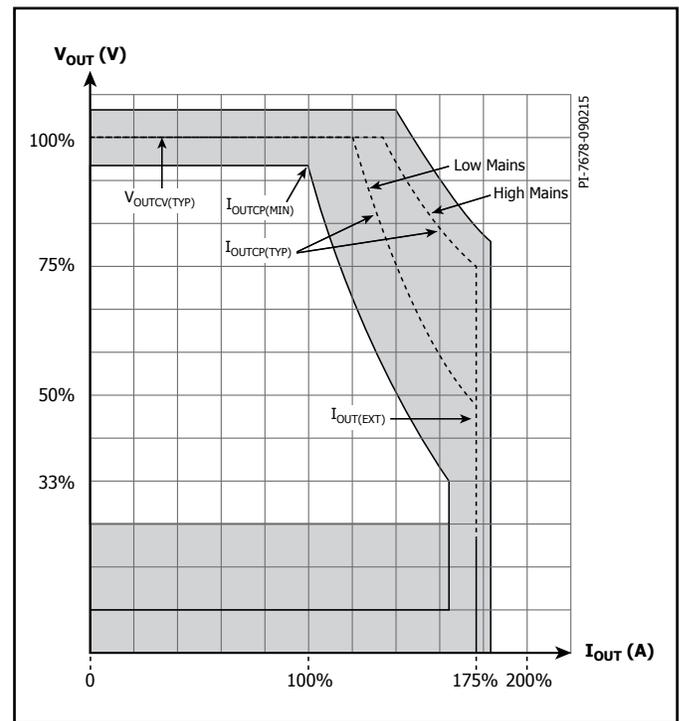

Figure 52. Typical LNK4214D and LNK4215D CP Output Characteristic.
In addition to EasyStart, LNK4214D and LNK4215D devices have a constant power section to the VI curve, see Figure 52. This feature is intended to further improve start-up into large capacitive loads (5000  $\mu$ F at 12 V). At start-up, the constant current (CC) pull-up set point of the VI characteristic (bottom right of Figure 52) is set by the transformer turns ratio, the value of  $R_{CS}$  and the value of the device parameter  $V_{CC(SC)}$ . The value of  $V_{CC(SC)}$  is about 75% higher on LNK4214D and LNK4215D compared to LNK4014D and LNK4115D, so for a given transformer and  $R_{CS}$  value the CC level,  $I_{OUT(EXT)}$ , will be about 75% higher than the standard CV/CC VI curve parts, providing an extra 75% of start-up current into the output capacitance and aiding a successful rapid start-up. As the output voltage rises, the controller regulates in CC mode until it is above approximately 50% of the design CV level. It then operates in a power limited (CP) mode until the voltage reaches the design CV set point, at which point it changes to CV mode regulation.  $I_{OUT}$  at this point,  $I_{OUT(CP)}$ , will be greater than 57% of  $I_{OUT(EXT)}$ . The exact trajectory is somewhat dependent on the HT level (mains input level). This is due to the controller operating in open loop mode over the CP section of the VI curve i.e. feedback is not effective during this section, so inaccuracies due to efficiency variation over the CP section and mains input level are not corrected. Hence there is no single CP curve for a design, but minimum and maximum curves between which the actual curve will lie, see  $I_{OUT(CP)}$  for Low Mains and High Mains in Figure 52. The constant power value is set by the full load switching frequency parameter  $F_{SW}$ , the primary inductance, the peak primary current – set by the device parameter  $V_{CS(MAX)}$  divided by the value of  $R_{CS}$ , and the conversion efficiency. Due to the open-loop mode of operation on the CP section, tolerances in primary inductance, switching frequency,  $R_{CS}$ ,  $V_{CS(MAX)}$  and  $V_{CSCC}$  play a significant part in the accuracy of the CP section of the VI curve. This must be factored in when undertaking the design of a CP application.
The first step is to use the LinkSwitch-4 PIXIs tool to design the transformer and component values for a CV/CC equivalent to the CV/CP circuit. The important consideration is to have the CV/CP circuit be able to provide at least the specification label output current at the label output voltage to the load i.e.  $I_{OUTCP(MIN)}$  in Figure 52 must be equal or greater than the label current across component tolerances. Worst-case, this means that 15.5% must be allowed for. In practice, 10% should be acceptable mainly due to parameter tolerance safety margins in the chip and the statistics of getting the worst case values on the same board.
The LNK4214D and LNK4215D have a modified value for  $V_{CSCC}$ . It is higher so that the circuit will reach the power limited CP condition before the CC condition and provide the VI curve given in Figure 52. What is required is a new value for  $R_{CS}$  to allow  $V_{CS(MAX)}$  to be reached when the output is delivering the current entered in [B10],  $I_{CC}$  at  $V_O$ . This can be calculated from the formula: